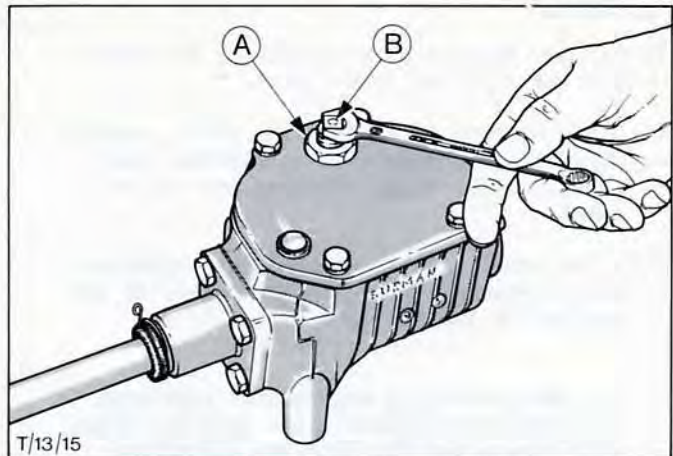
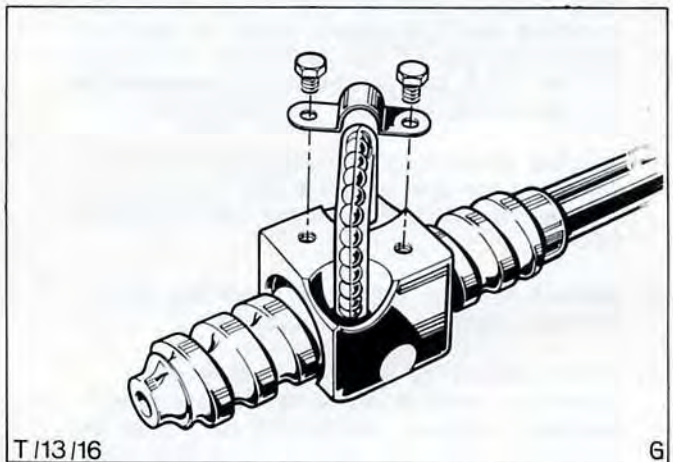

Fig.27. Remove adjusting stud and lock nut.
Fig.28. Remove transfer tube and steel balls.
1. Drain steering box oil, remove bolts securing side cover to steering box, carefully remove cover and gasket. Remove adjusting stud and locknut from cover. Fig.27.
5. Remove upper bearing cup and thirteen (13) steel balls, also remove ten (10) steel balls from lower thrust bearing cup.
7. Clamp steering shaft in vice using soft jawed vice, remove clamp from transfer tube, remove both halves of tube. Remove twenty seven (27) balls Fig.28.